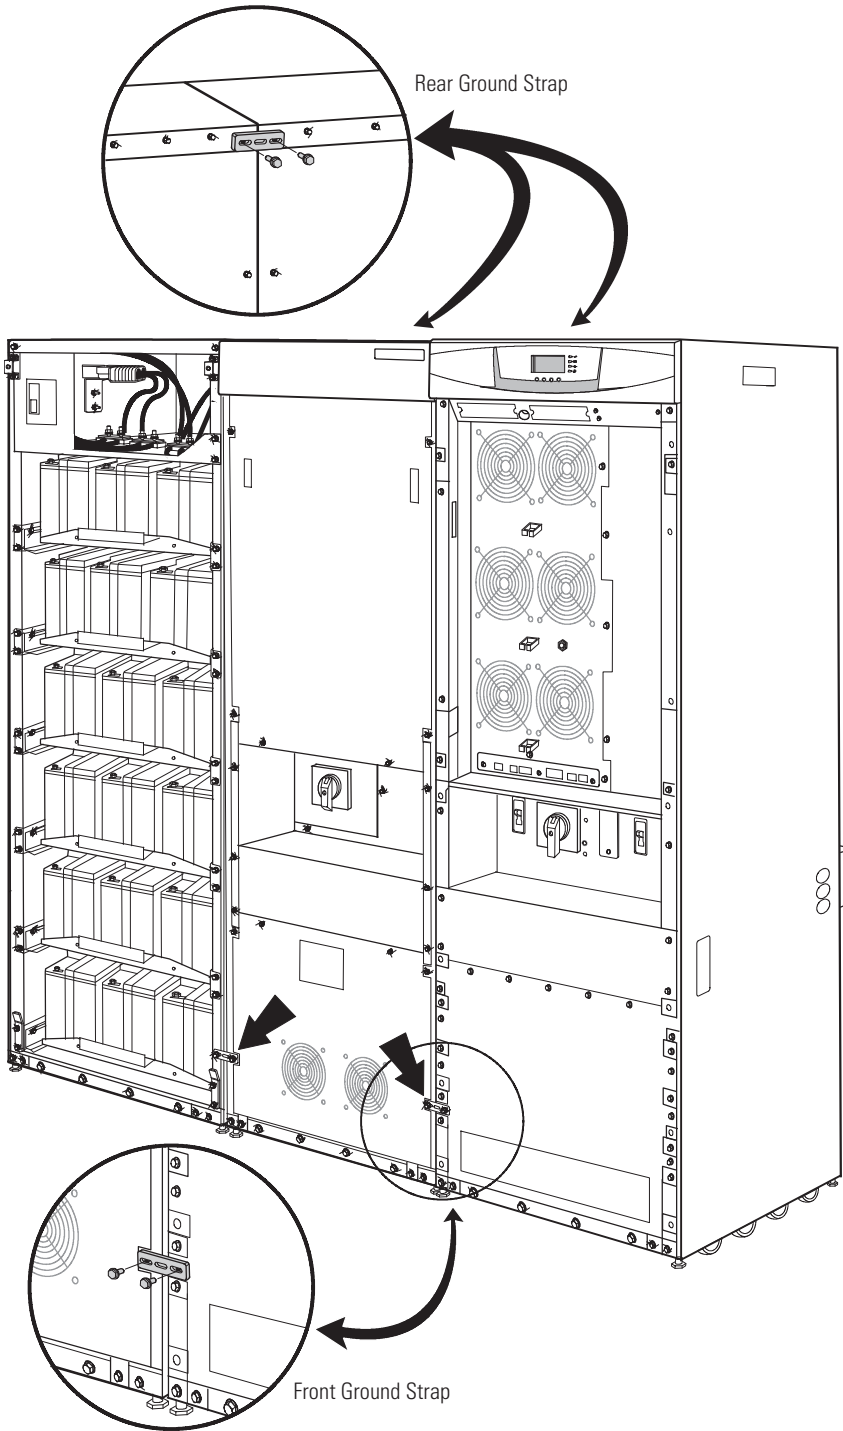

Figure 11. Ground Strap Installation
12. Install one ground strap between the rear panels of the adjacent cabinets as shown in Figure 11.
13. Install the other ground strap between the front panels of the adjacent cabinets as shown in Figure 11.